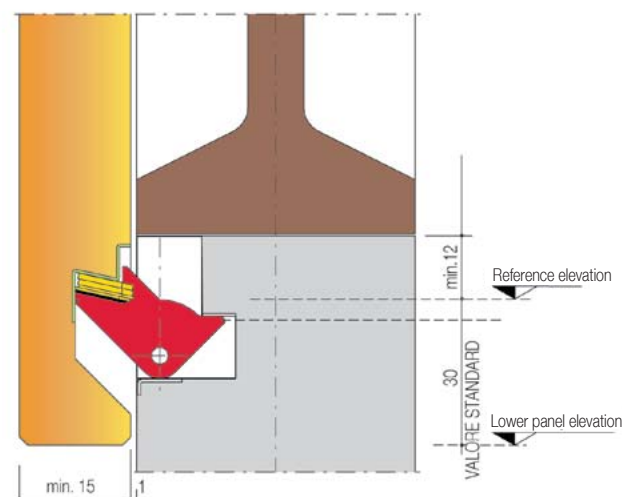

Fig. 7
- if the permanent load on the pillar head, and particularly on the Girella S, is greater than Girella S's rated load (*see fig. 7*);